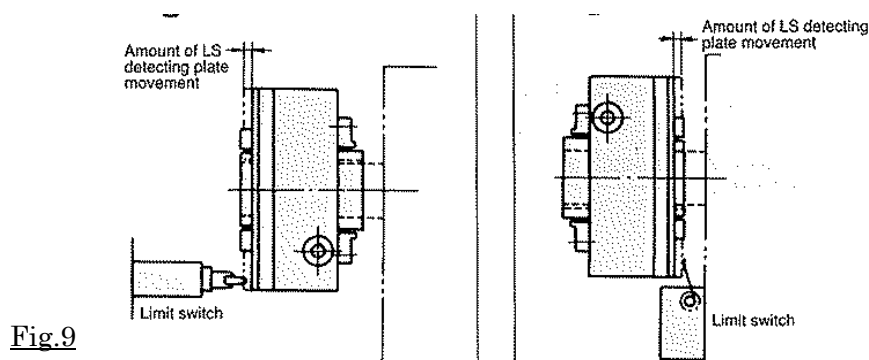
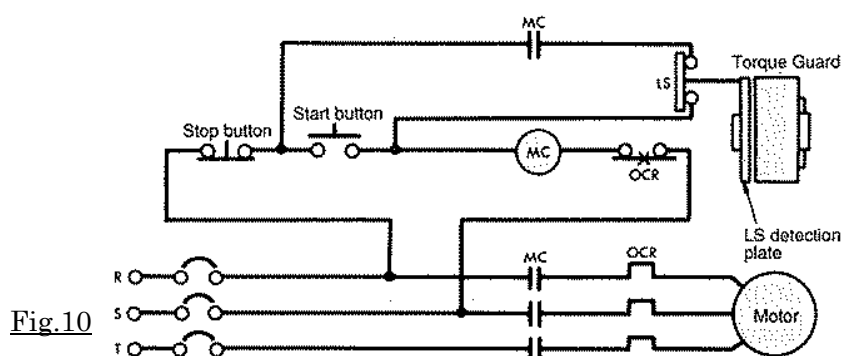

Fig.9
Fig.10
- ① Table 7 shows LS detecting plate movement and force during trip. Choose a limit switch from chart 5 that meets the “movement until operation” and its “necessary amount of force”.
- ② Fig.9 are limit switch installation examples.
- ③ Connect the limit switch’s “b contact” parallel to the start button’s contact.
- ④ Fig.10 shows an example of a typical circuit.